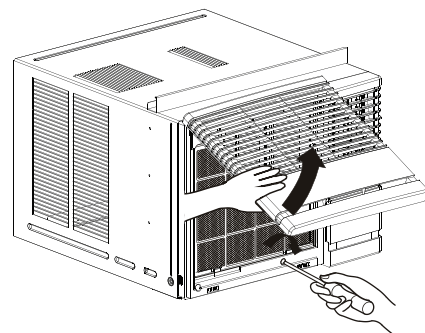

Fig.12
15. Pull down the inlet grille and secure it with a Type A screw ① through the front grille. (Fig. 12)